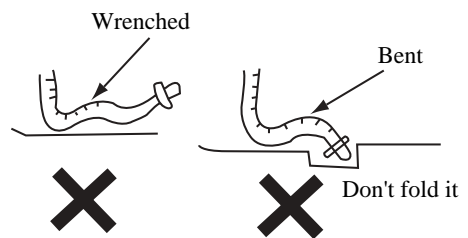

Fig. 11-3
- Do not wrench, bend or heave the drain hose or flood its end into water (As shown in fig. 11-3).